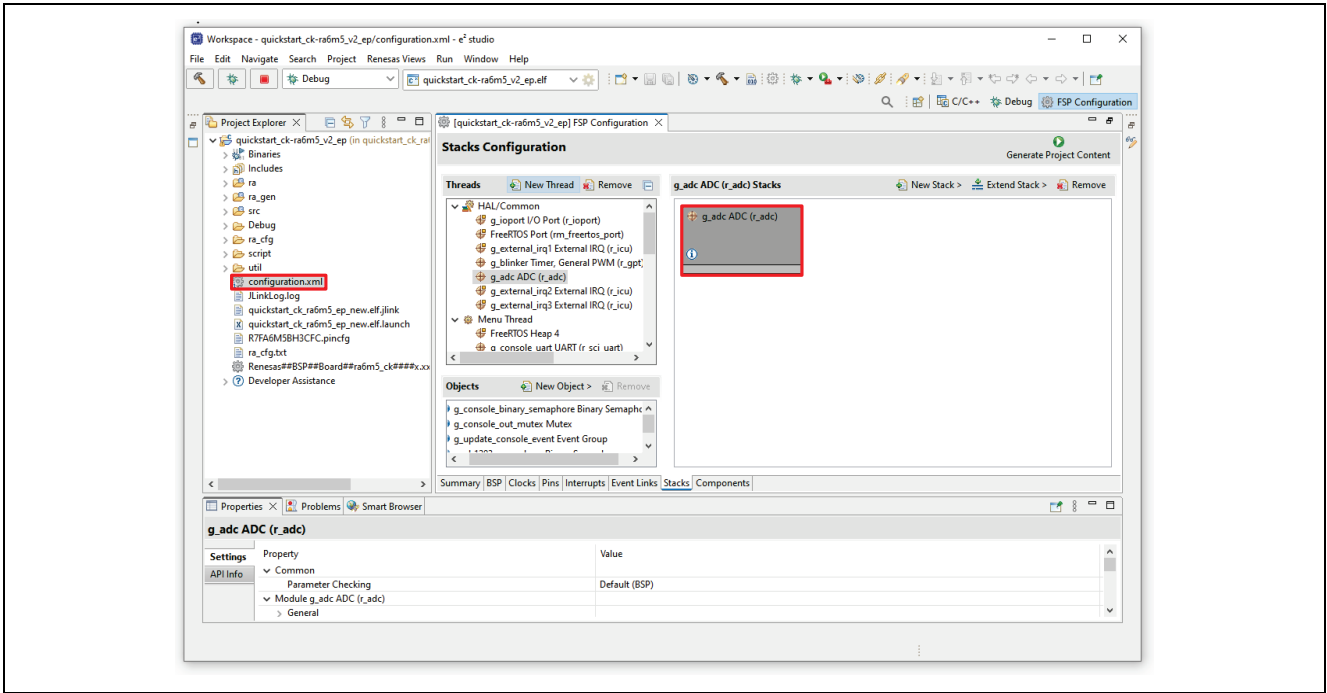

Figure 24. Modifying the Configuration Settings
2. For example, in the **Stacks** tab of the configurator, the user can click to select modules to modify the configuration settings, as required, in the **Properties** tab. Figure 24. Modifying the Configuration Settings illustrates modifying the **ADC** driver configuration.